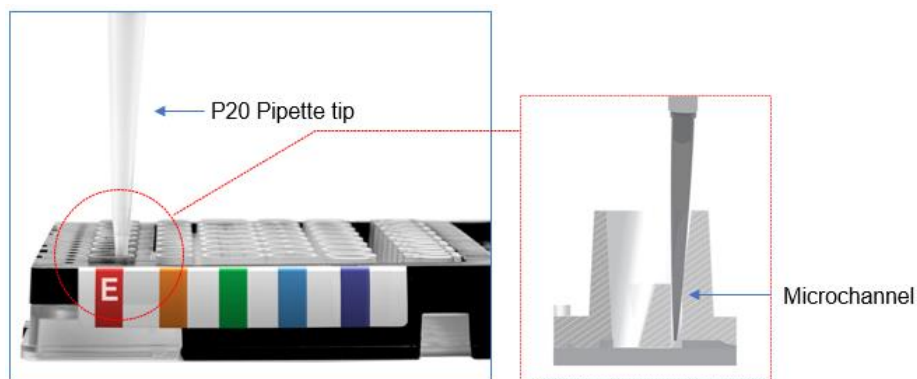

Figure 8. Recovery of any remaining DNA from the Extraction Well microchannel
- Using a P20 pipette set to 10 μ L, aspirate any remaining DNA extract from the microchannel on the right side of the Extraction Buffer well and combine with the extract from Step 2. See **Figure 8**.